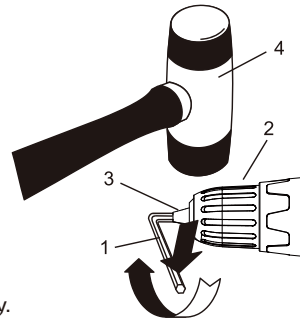

Fig. 16
2. Insert a $\frac{5}{16}$ " (8 mm) or larger hex key (1) into the chuck (2) and tighten the chuck jaws securely (Fig. 16). Make sure each of the chuck jaws (3) is seated on the flat surfaces of the hex key.
3. Tap the hex key sharply with a mallet (4) in a CLOCKWISE direction. This action will loosen the screw in the chuck for easy removal.